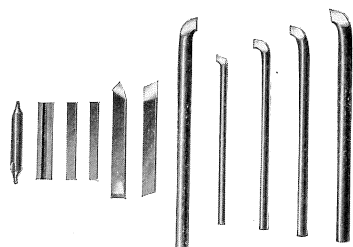

Fig. 20
work between lathe centers and marking high spots with chalk. When you are sure the centers are correct they must be drilled and countersunk. If a drill press or centering machine is not at hand, use a centering tool. (See Fig. 20.) Place this in the collet or drill chuck in the live center of the lathe and run the work to be centered against it until it is drilled and countersunk to the proper depth. Repeat this for both ends. The work is now ready to be turned. Improper centering will destroy the lathe centers. These centers should be carefully taken care of as upon them depends to a large extent the accuracy of the lathe. Keep the tailstock center points well lubricated at all times with one of the lathe center lubricants on the market or with a mixture of oil and white lead. Before placing the work on the centers, slip a lathe dog on one end. Make sure the dog is sufficiently large not to touch the center of the face plate, (See illustrations) as tension here tends to push the work off center. Adjust the tailstock so that there is no end play between centers yet so that the work is free to turn.
**CUTTING TOOL BITS.** There is not enough space here to describe all the different kinds and shapes of cutting tools and their uses. It is wise if the unskilled purchase already formed tools for the particular operations he wishes to perform. Tool bits are not expensive and the purchase of a set of these will probably prove the cheapest and most satisfactory way out in the long run. (See Figs. 20 and 22.)